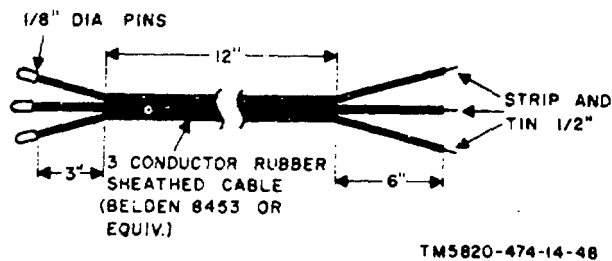

Figure 48. Test cable No. 3, construction details.
c. *Test Cable No. 3* (fig. 48). Test cable No. 3 is used to connect the RCVR PWR jack to the dummy load resistors when either power supply is tested. One cable is required.